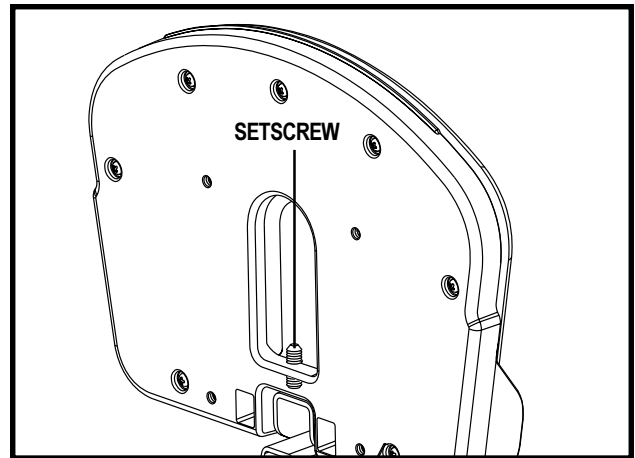

Figure 20. Underside of Footrest
1. Locate the setscrew on the underside of the footrest. See figure 20.